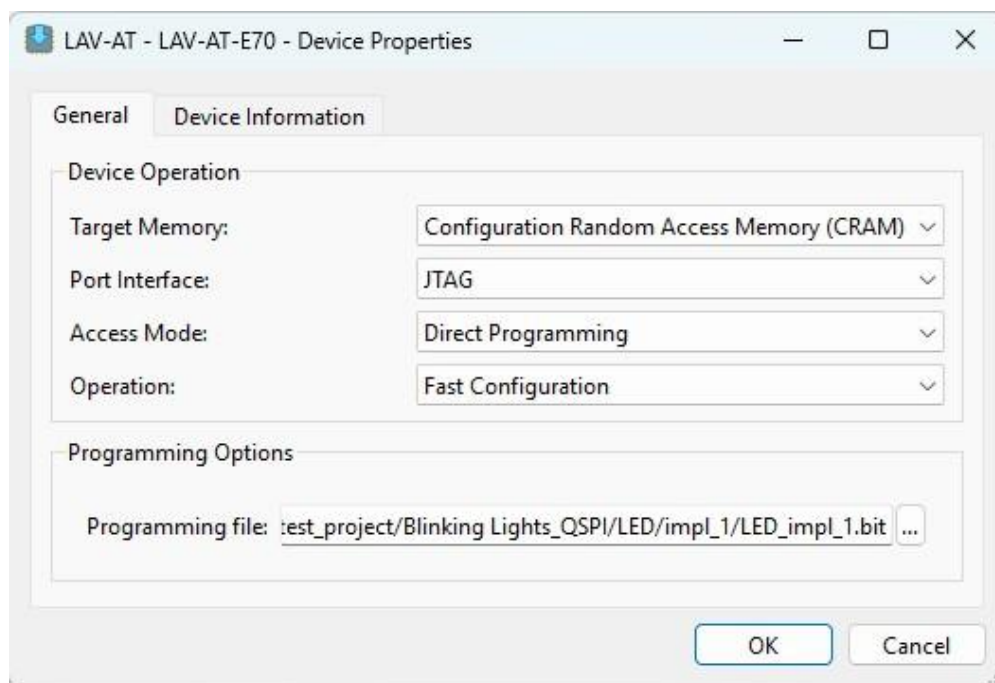

Figure 5.6. Radiant Programmer – Device Properties
6. The Device Properties dialog box opens as shown in Figure 5.6. Select the following options: